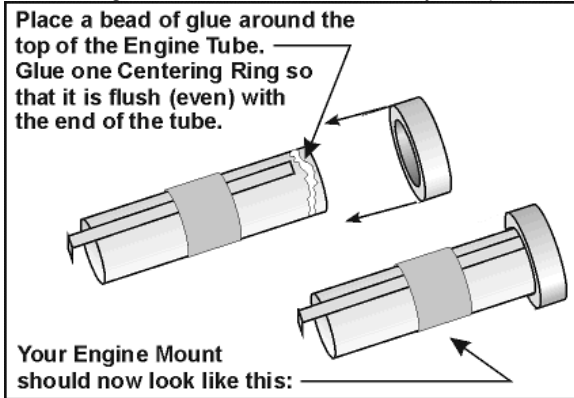

Figure 4
4. Review **Figure 4** to glue on one of the two Centering Rings. (**Thing-a-ma-FACT:** The **Centering Rings** are used to hold the engine tube in the center of the body tube.)